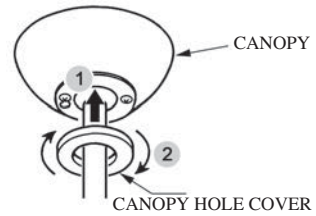

FIG. 11
5. Retighten the two screws and place the canopy hole cover and twist the cover to tighten up. (see Fig.11)